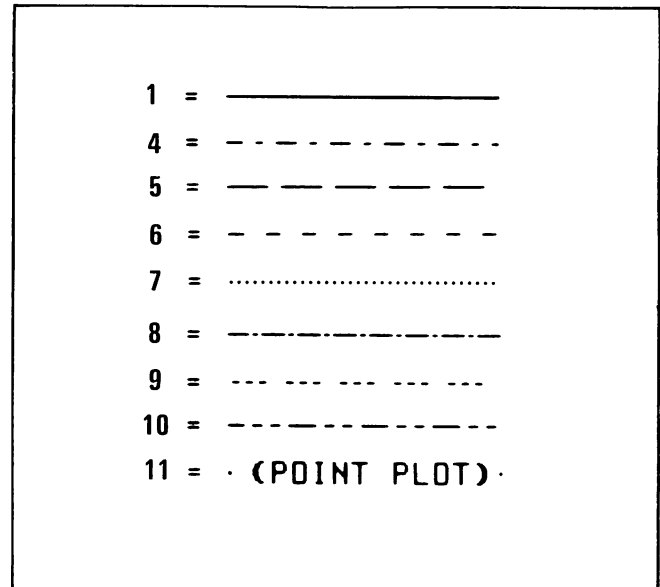

Figure 3-3. Predefined Line Type Patterns
**LINE TYPE.** One of eleven line types can be selected. Once a line type has been selected all drawing vectors are drawn using that line type. The patterns for the predefined line types are shown in figure 3-3. Refer to the Define Line Pattern command for additional information.